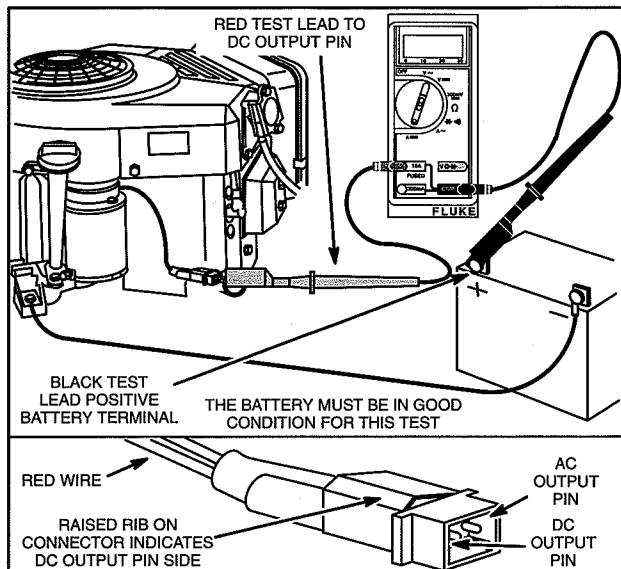

Fig. 14 – Testing DC Output
4. Attach RED test lead clip to DC output pin in connector, Fig. 14.